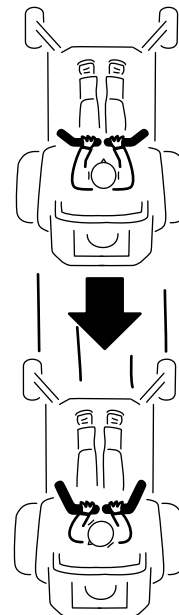

Figure 25
2. To go backward, slowly pull the motion-control levers rearward (Figure 25).